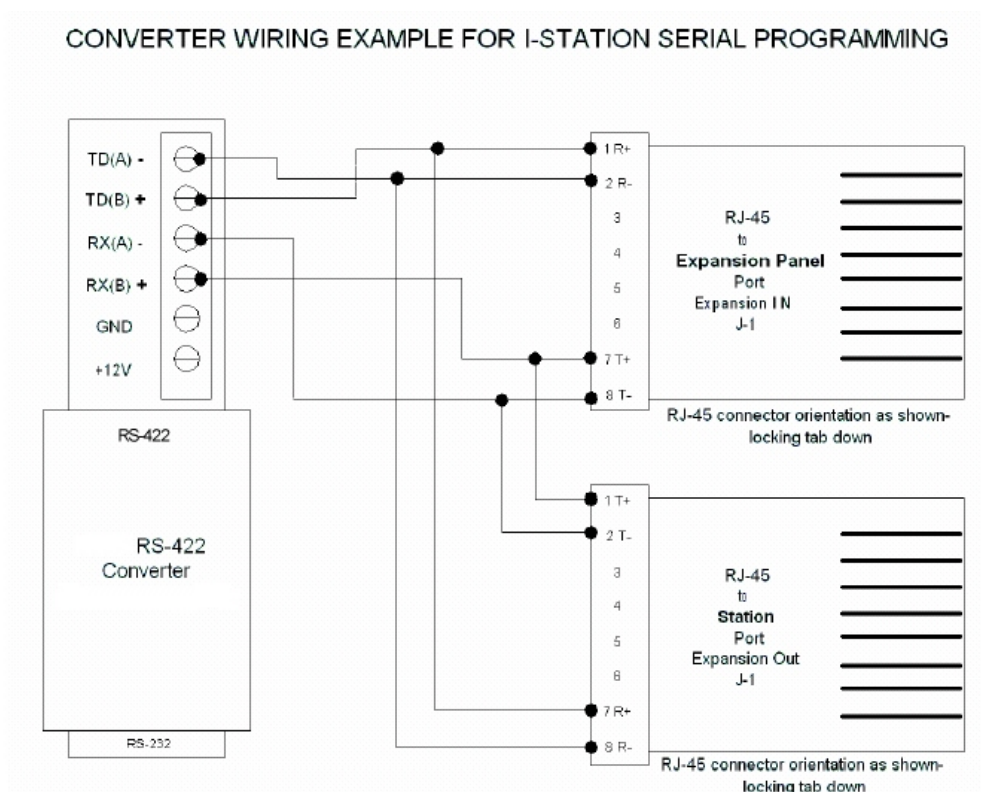

Figure 87: Example wiring scheme for I-Series (I-Station) serial programming
- RS232/RS422 adaptor (see **Figure 87: Example converter cable**).